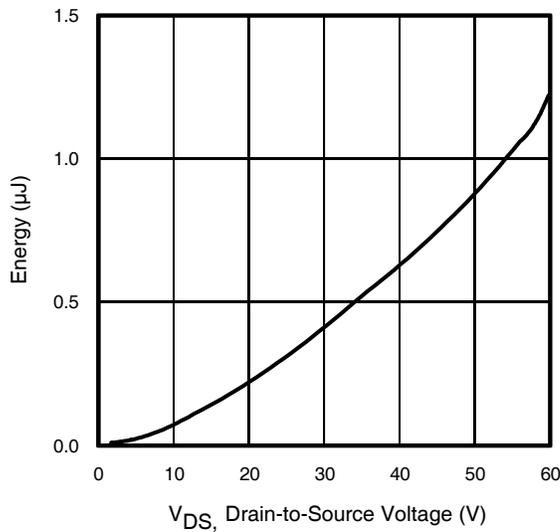

Fig 11. Typical C_{OSS} Stored Energy
| C _{oss eff. (ER)} | Effective Output Capacitance (Energy Related) | — | 720 | — | | V _{GS} = 0V, V _{DS} = 0V to 48V ⑦, See Fig. 11 |